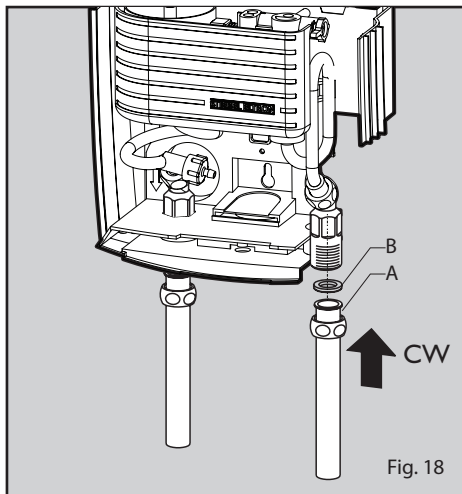

Fig. 18
- Screw the joints on the unit (Fig. 18/A) to the pipe (both hot and cold water), using a rubber leakage gasket (Fig. 18/B) between the joints.